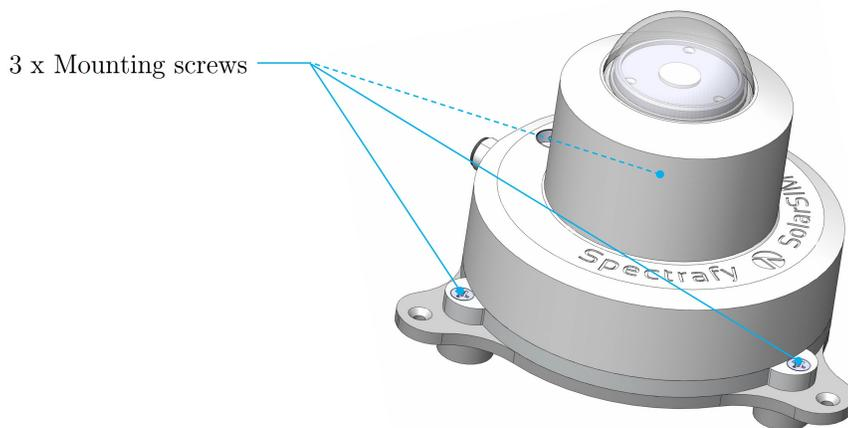

Figure 2: Up-facing SolarSIM-G assembled on the levelling plate. Note the orientation of the levelling plate.
1. Fasten the up-facing SolarSIM-G (without the glare shield) to the levelling plate with the three 12 mm M4×0.7 flat head screws, as shown in Figure 2. Note the orientation of the levelling plate.